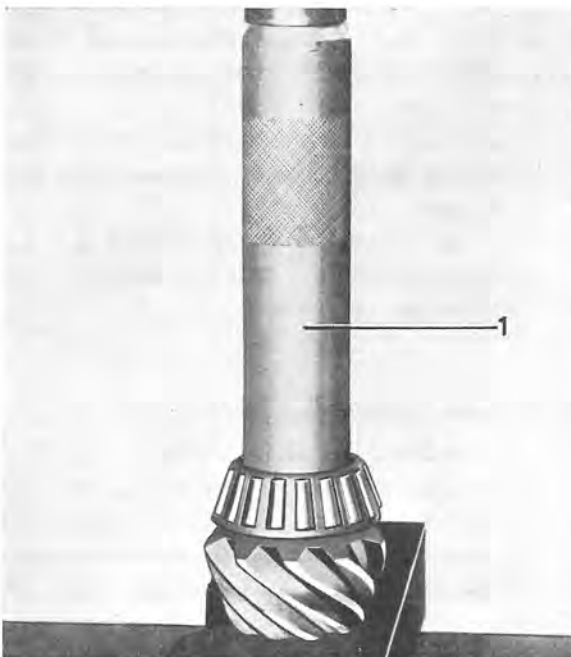
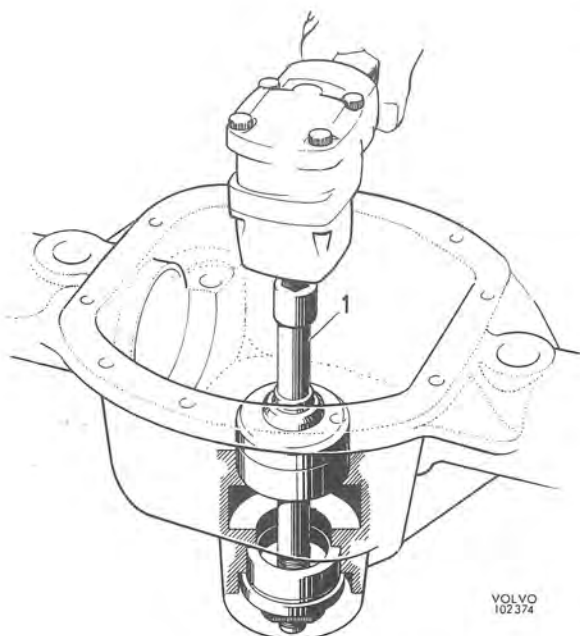

Fig. 4-157. Installing rear pinion bearing
Fig. 4-158. Installing bearing rings
4. Press the rear bearing on the pinion with sleeve SVO 2842, see Fig. 4-157. Fit the measured shims and press in both the outer rings of the bearings with tool SVO 2845, see Fig. 4-158.